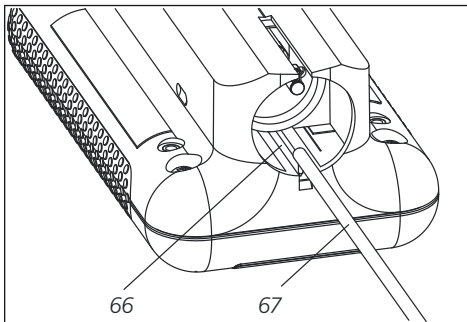

Fig. 15
1. Position a suitable surface texture measuring instrument (e. g. Perthometer S2, drive unit PZK, skidless pick-up MFW) such that the pick-up is positioned on the integrated standard and a traversing length of 5.6 mm can be measured (see Fig. 15).